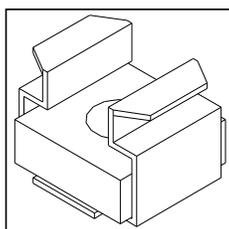

Figure 14: Square Bolt.
There are two (2) leveling legs and they can be found inside the manual bag. Each leveling leg consists of a long bolt, a hex nut, a washer, and a square bolt with clip (see Figure 14). For installation of the leveling legs the unit should be on its back and a  $\frac{1}{2}$ " wrench is required for adjustments.